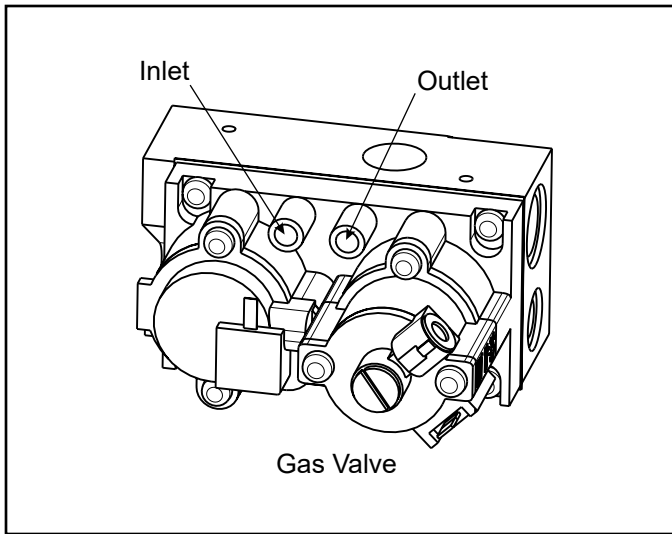

Figure 5.2 Pressure Test Ports
1. Turn captured screw counterclockwise two or three turns. See Figure 5.2.